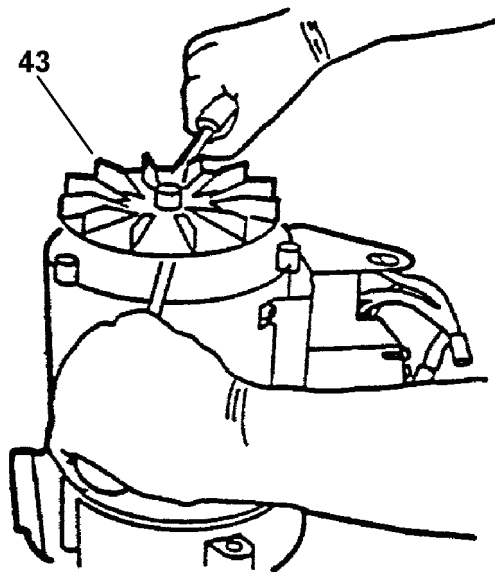

Figure 3-5. Fan Removal.
- h. Use two flat tipped screwdrivers and place one on each side of the shaft under fan (43, Figure 3-5). Pry up on the fan (43) until it moves up the shaft approximately 1/8 inch. Remove the fan.